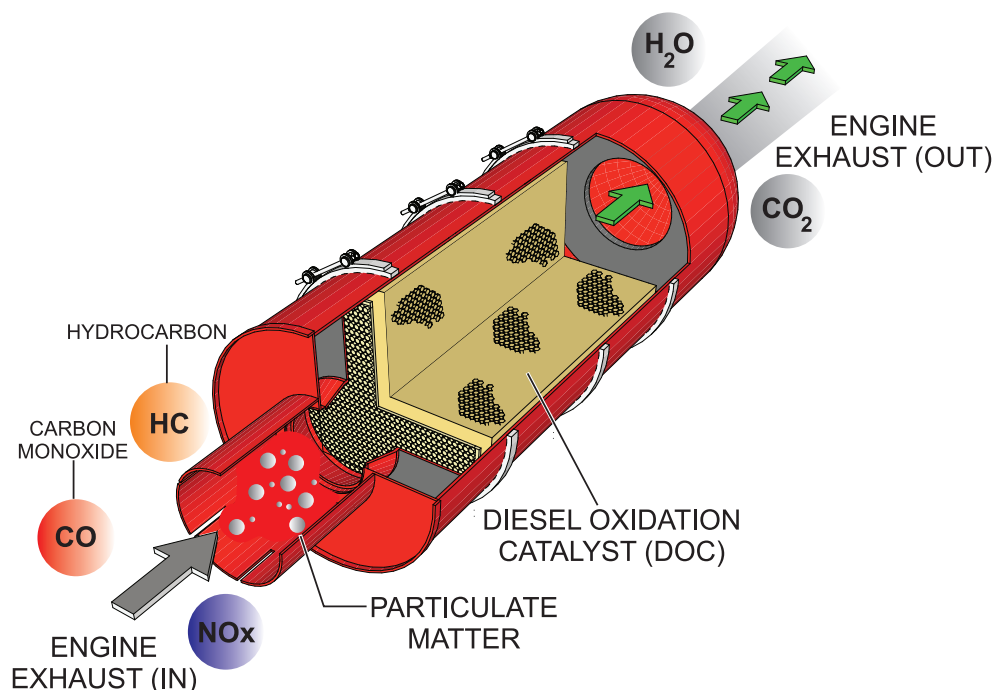

Figure 97. Diesel Oxidation Catalyst (DOC)
The DOC device (Figure 97) helps filter out large amounts of harmful nitrogen oxides (NO_x) and particulate matter (PM) which are emitted by diesel engines. These exhaust emissions pose serious environmental and health risks. It is important to maintain and service the DOC emission safety device on a periodic basis.
The DOC (Figure 97) does not filter particles, it oxidizes them. This catalyst (honeycomb-like structure) uses a chemical process to break down pollutants in the exhaust stream into less harmful components. In general this catalyst collects/burns accumulated particulates. The DOC contains palladium and platinum which serve as catalysts to oxidize hydrocarbons and carbon monoxide.